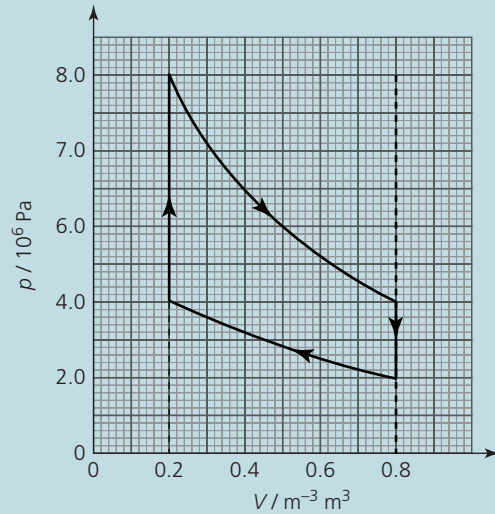

Figure 8
9. The p - V plot in Figure 8 is for a four-stroke petrol engine, which has four pistons (cylinders). This engine is rotating at 3000 rpm. Use this information and the diagram to calculate the indicated power of the engine.